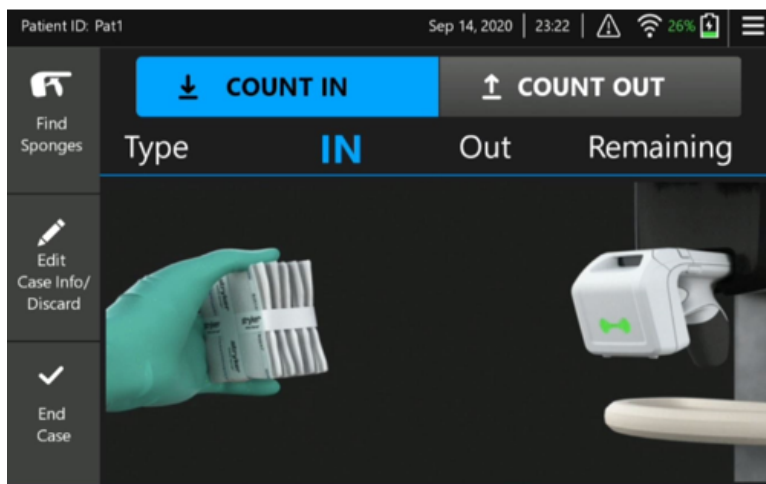

Figure 12 – Count IN Screen
1. If required, tap **COUNT IN** to navigate to the Count IN screen (Figure 12).
3. Maintain sterility and present the sponge pack to the reader as shown (Figure 12).